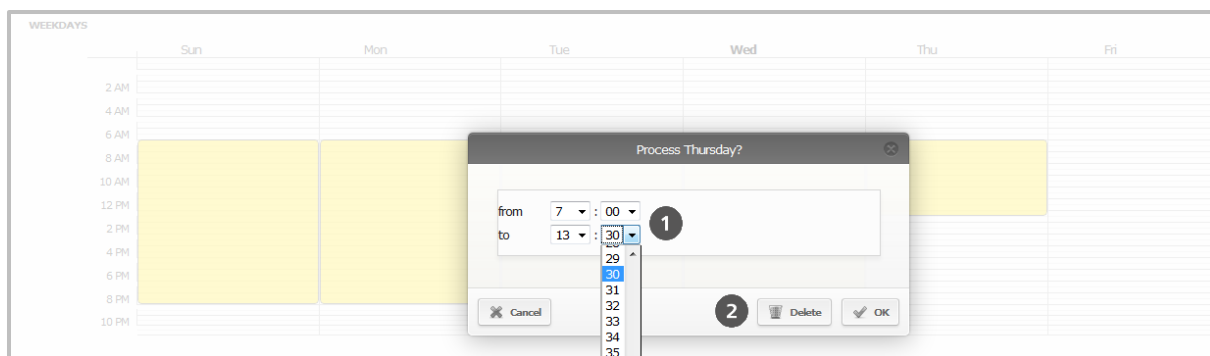

Figure 95: Changing the office mode period
- Click the desired day and select the desired start and end time for office mode on the corresponding day from the drop-down list (**from – to**) ❶ (Figure 95: Changing the office mode period).